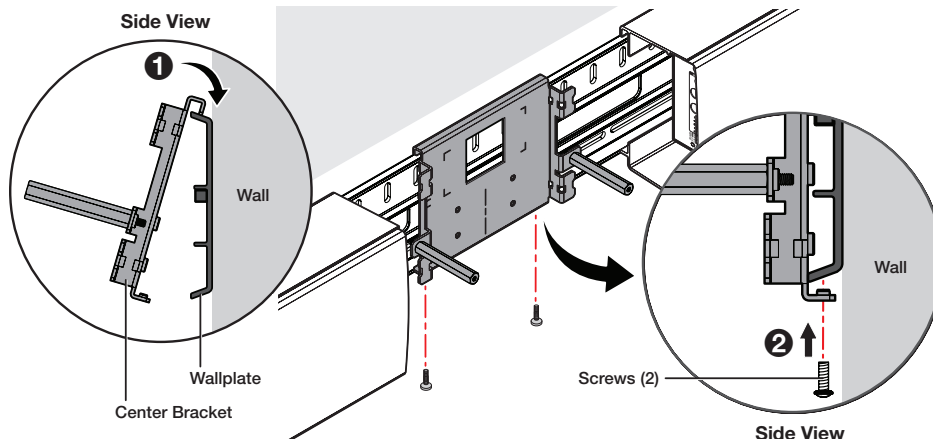

Figure 15. Installing the Center Bracket to the Wallplate
7. Hook the top clasp edge of the center bracket over the top rail (figure 15, ❶) of the wallplate and slide it to center of the display.